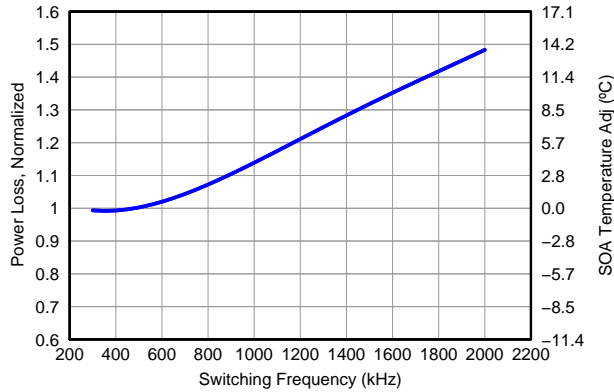

Figure 12. Normalized Power Loss vs Frequency
- Normalized Power Loss for switching frequency  $\approx$  1.08 (Figure 12)
- SOA adjustment for switching frequency  $\approx$  2.6°C (Figure 12)